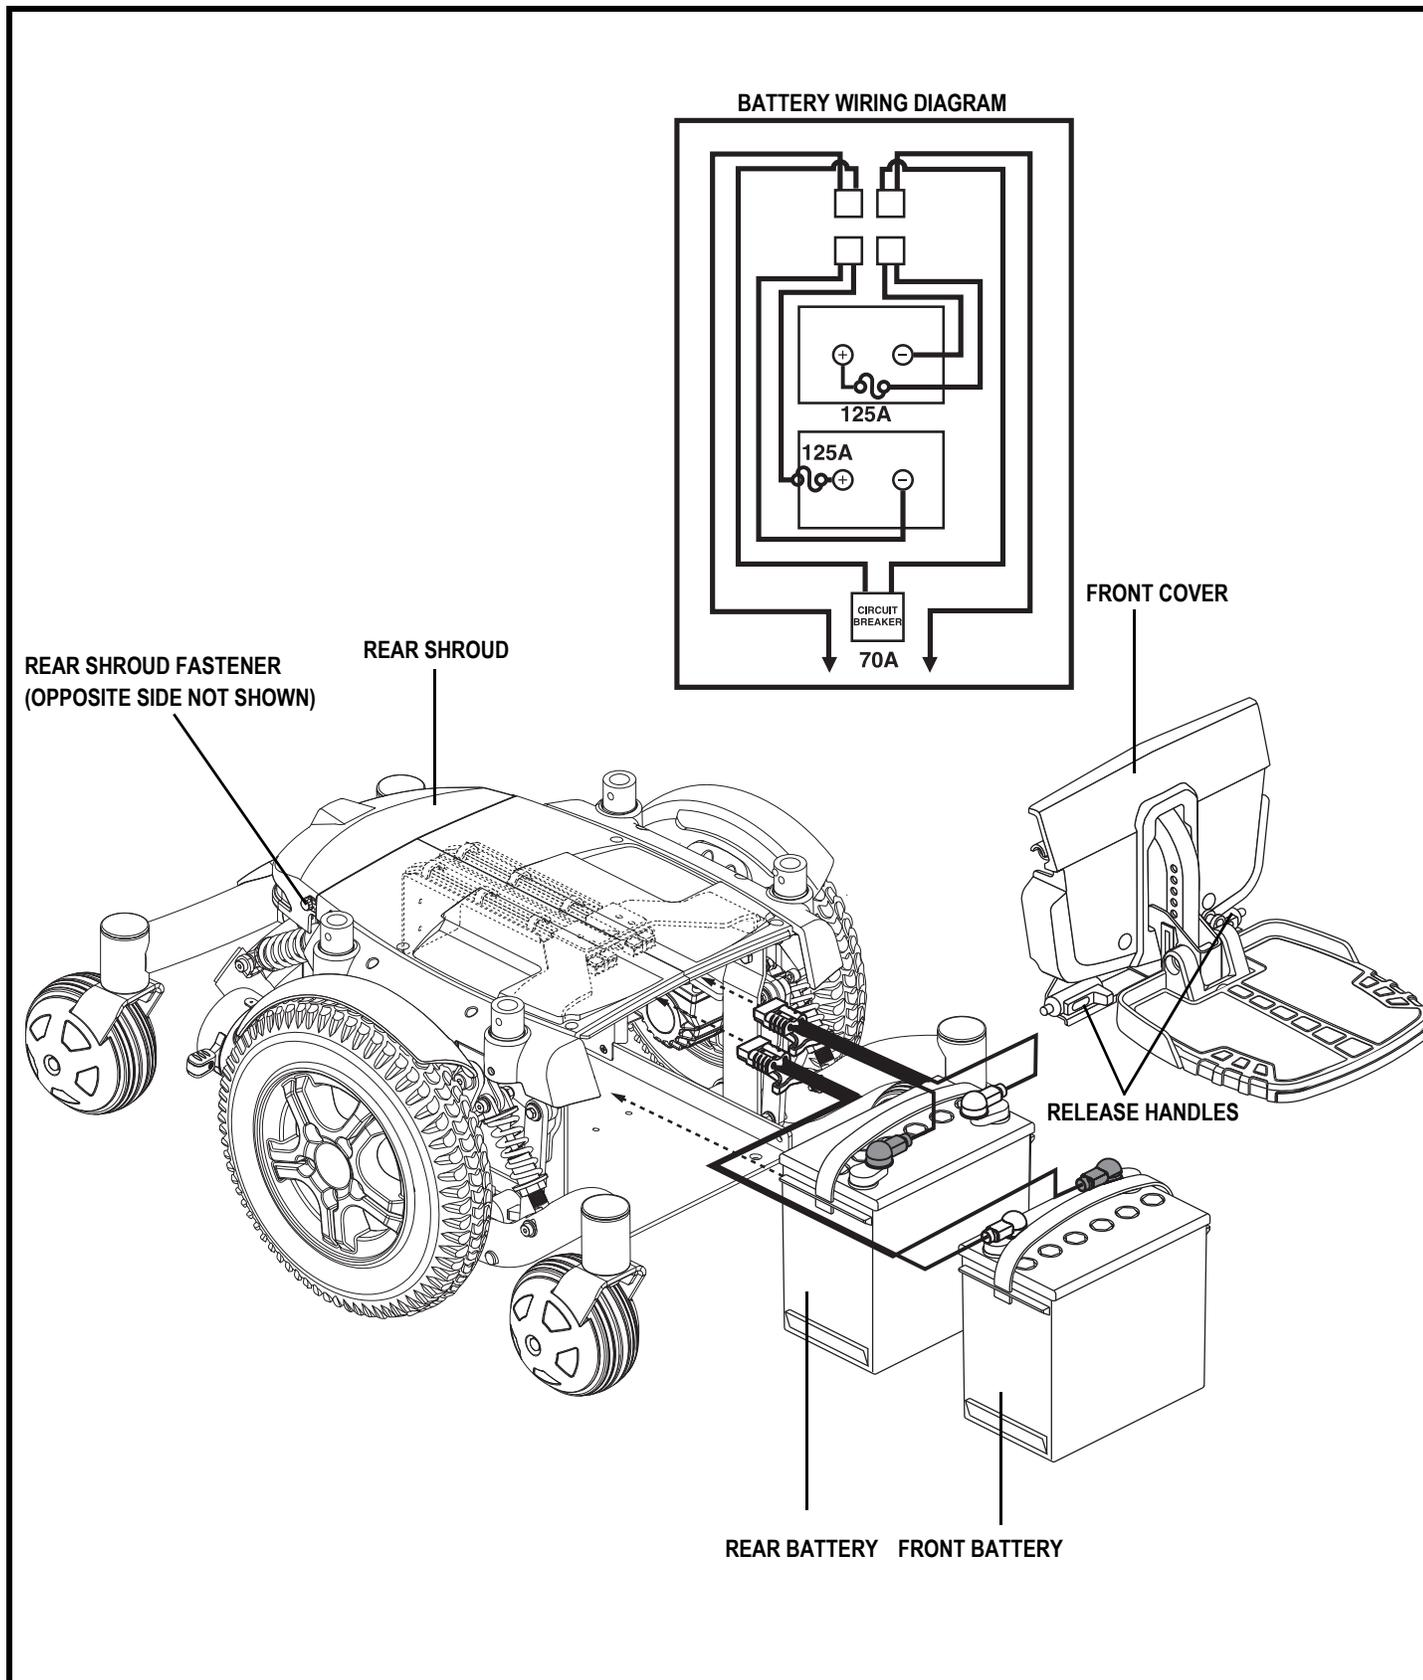

Figure 27. Battery Installation
3. Remove the foot platform by squeezing the release handles (see **figure 27**) and lifting the foot platform bracket up and away from the power base.
7. Connect the battery harness to the new front battery according to the battery wiring diagram. See **figure 27**.
8. Connect the battery harness to the new rear battery according to the battery wiring diagram. See **figure 27**.